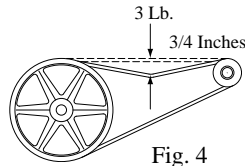

Fig. 4
- **Check belt and belt tension.** This applies only to model MMBT14 which is belt driven. Model MMBT12 has a direct drive motor. Check the belt for any cracks or wear and replace if necessary. Check the tension on the belt. A 3 lb. force should deflect the belt 3/4 inches (see Fig. 4). Readjust belt if needed.